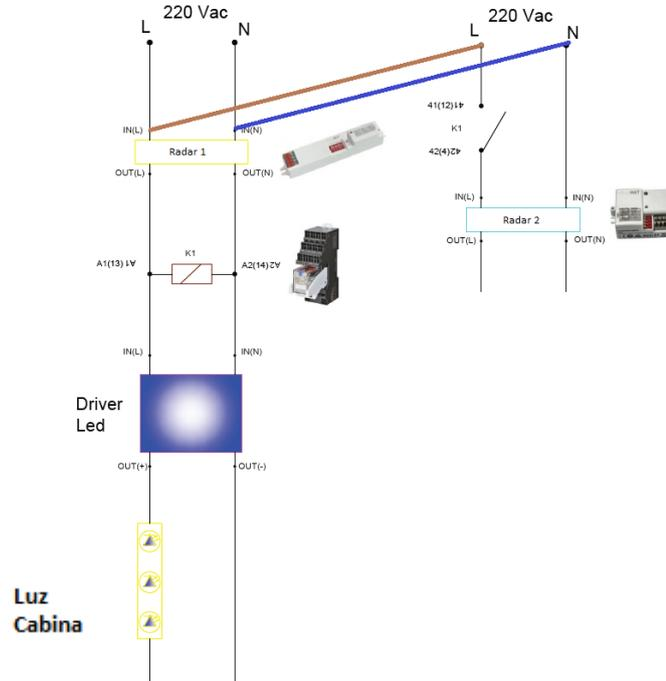

Fig. 6
- VI. Then proceed to wire Radar 2 feeding the IN (L) input from **pin 42 (4) of the OMRON relay** and the input IN (N) from the neutral (N) of the line obtained from the power supply of the elevator lights (Fig. 6).